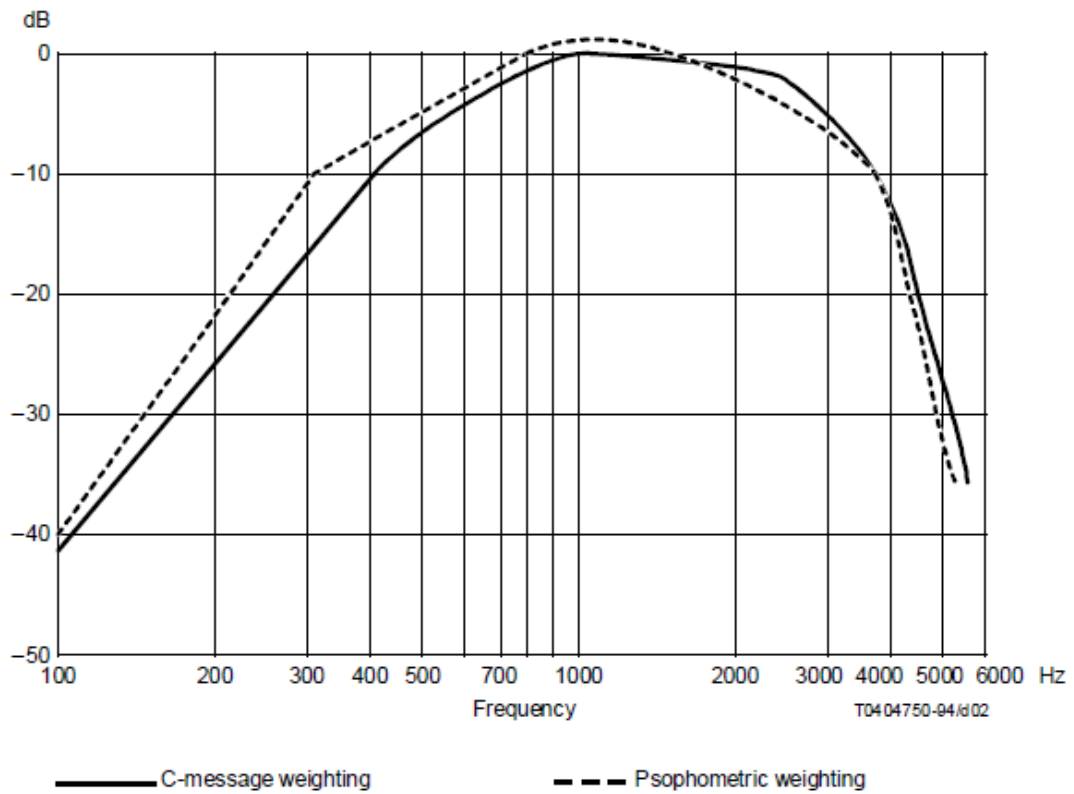

Fig. 7.104: Adding Auto and Cross-correlation
Clicking on “+” in the channel list opens the window for selecting the different math functions. Under the basic math functions there is the option to add a correlation (see Fig. 7.104 ). It is possible to choose between an Auto or a Cross-correlation. Then press the “Add” button in the bottom right corner of the window and a new correlation channel will automatically be added to the channel list under the specified group name (see ③ in Fig. 7.104).
The Auto-correlation (see ① in Fig. 7.104) mathematically describes the convolution of a signal with itself and is used to detect periodicity in signals, e.g. in modulated and noisy signals.
The Cross-correlation (see ② in Fig. 7.104) mathematically describes the convolution of a signal  $x$  with another signal  $y$ . The Cross-correlation is used e.g. to detect identical components in 2 different signals or to analyze the delay time between 2 signals.